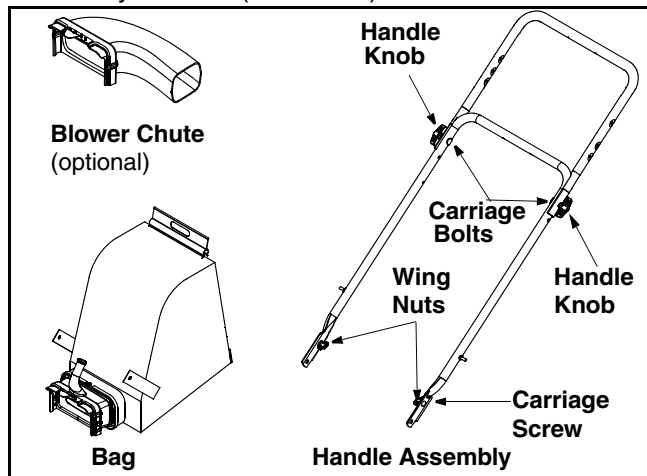

Figure 1
- Unfold the upper handle until it aligns with the lower handle as shown in Figure 1.
- Tighten both handle knobs securing the two handles. See Figure 1. Make sure both carriage bolts are seated properly on the handle.
- Remove carriage screws and wing nuts, called out in Figure 1, from the lower handle.